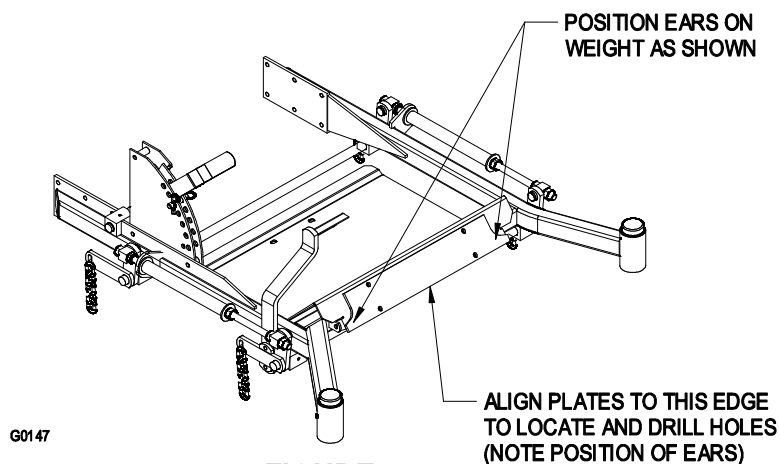

FIGURE 10
- 3.5.2 Locate the position of the mounting holes by clamping a weight plate to the front of the floor pan (See Figure 10). The ears on the weight plate should be towards the bottom (upside down from the actual mounted position). Align the bottom edge of the weight plate with the bottom edge of the floor pan front panel. Center the weight plate side to side. Mark the position of all four holes using a center punch.